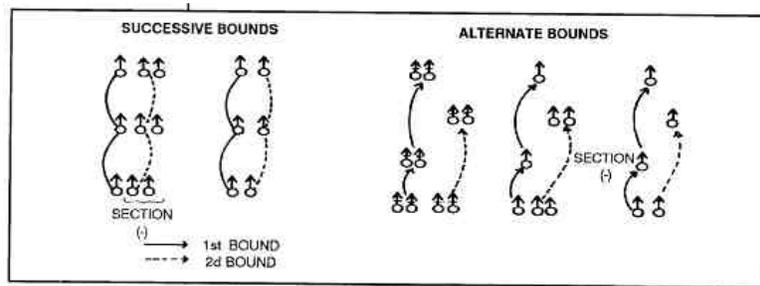

Figure 6-8. Types of bounds.
- b. When displacing by sections or squad(s), successive or alternate bounds can be used (Figure 6-8). Alternate bounds are normally used when displacement must be rapid in order to stay up with supported elements. Successive bounds are used when the maneuver element's movements are not so rapid such as in defensive or retrograde operations.